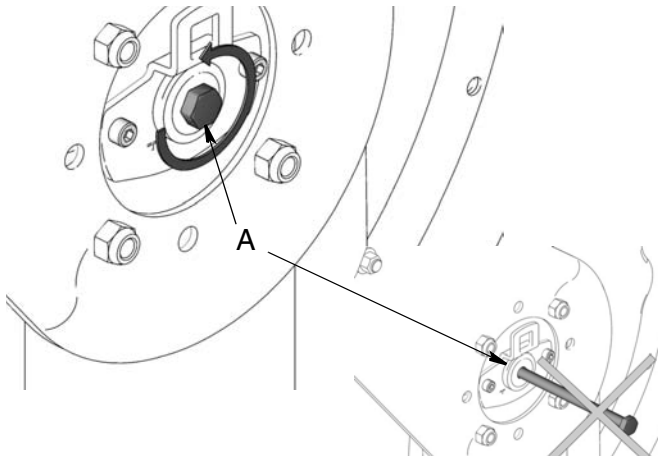

FIG. 15
1. If it is not already loose, loosen (A) 3-5 turns. Do not remove (A)! (FIG. 15).